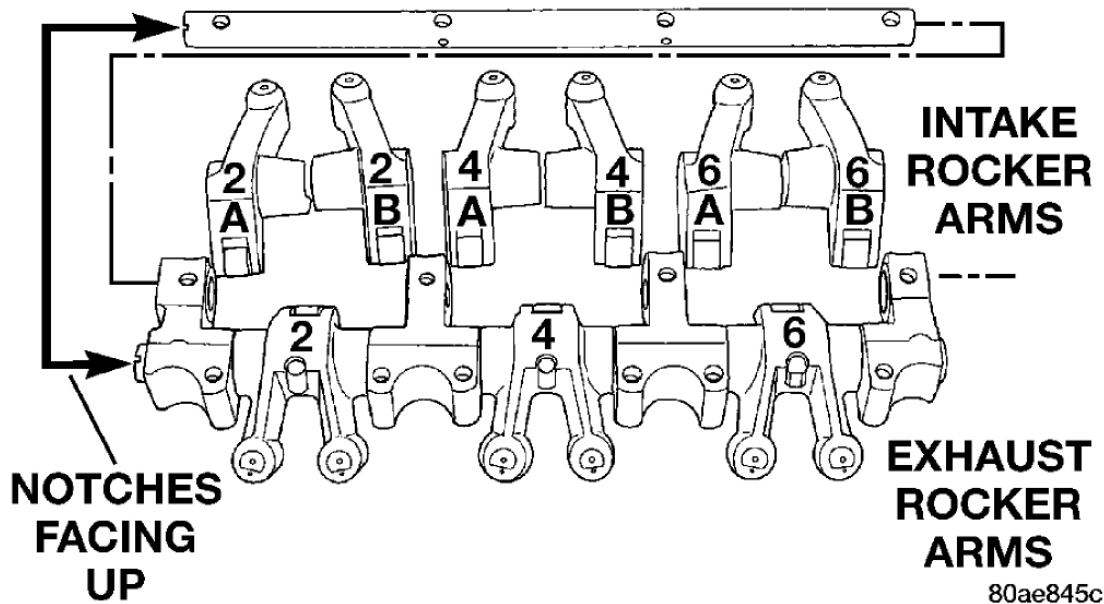

Fig. 149: Rocker Arms and Shafts
2. Identify the rocker arm assembly and rocker arms before disassembly. See Fig. 149.